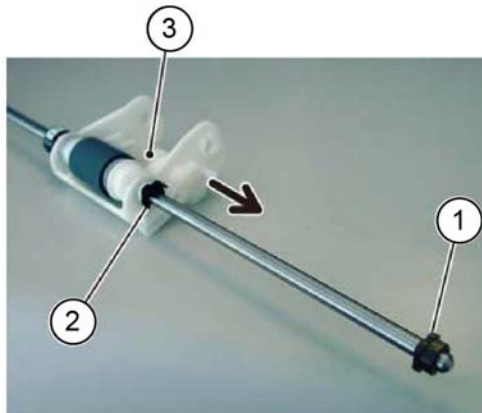

Figure 7 Shaft
8. Move the housing, Figure 7:
- a. Remove the bearing (1).
- b. Remove the E-clip (2).